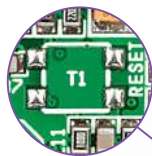

Figure 4-1: Reset button located at the backside of the board
**note** You can also solder an additional reset button on the appropriate place at the back side of the board, **Figure 4-1**.